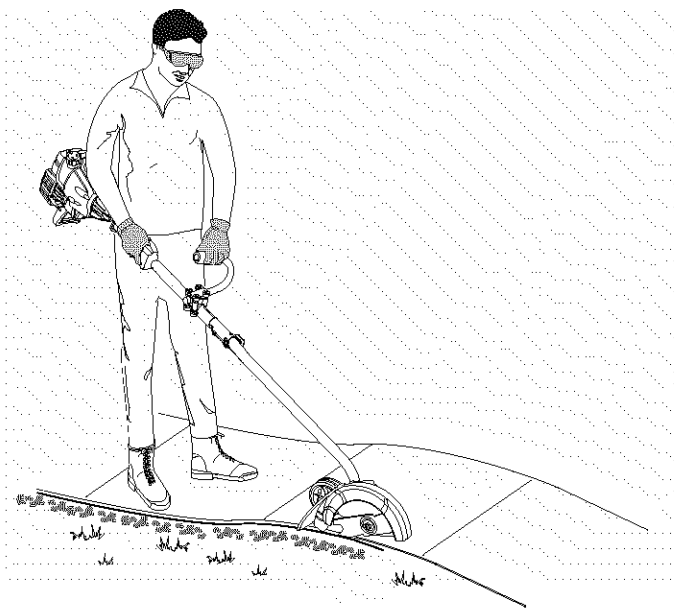

Fig. 15
Before operating the unit as an edger, stand in the operating position (Fig. 15). Check for the following:
- The edger wheel is adjusted for proper cut depth and the edger is positioned as shown in Fig. 15.